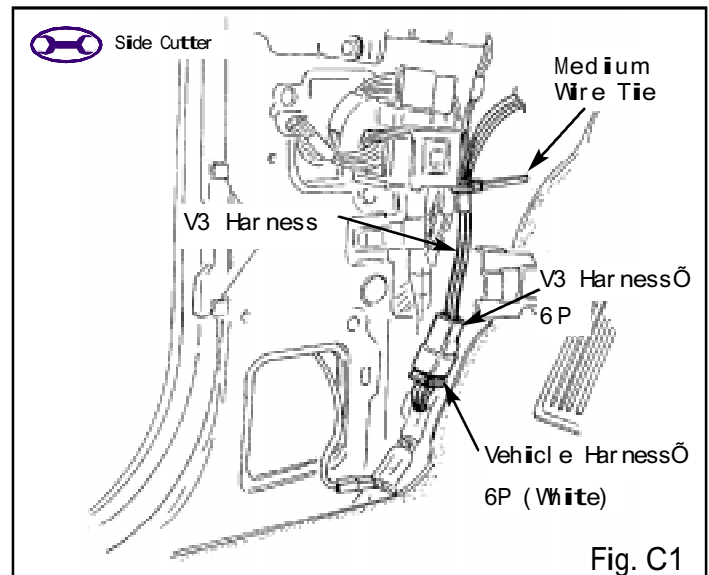

Fig. C1
1. Locate the vehicle harness's white 6P connector from the Driver Side cowl area. (Fig. C1)
➔ 2. Plug in the V3 harness's 6P connector into the vehicle harness's 6P connector. (Fig. C1)
3. Secure the V3 harness to the vehicle harness with one medium wire tie. (Fig. C1)